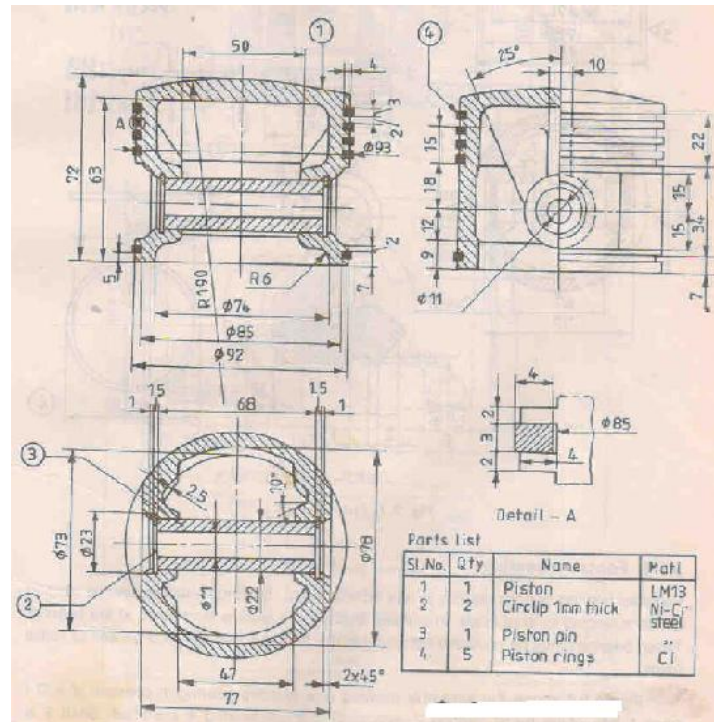

Figure 5 Component details of a piston
1. Draw the detailed drawing including the dimensional tolerance, geometrical tolerance and surface finish for the piston, piston pin given in the figure 5.